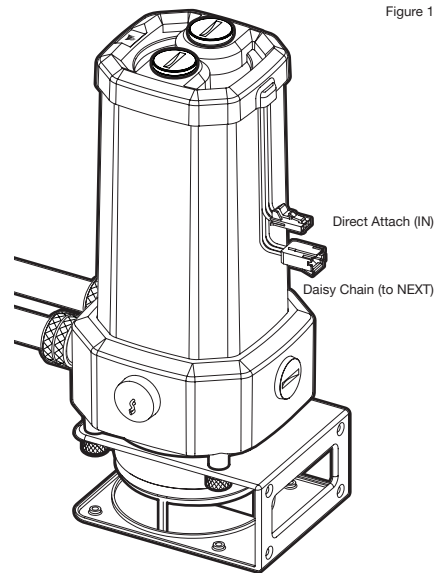

Figure 1
1. Connect the XD5 RGB male connector into the RGB ADAPTER CABLE (M) female connector (Figure 1).